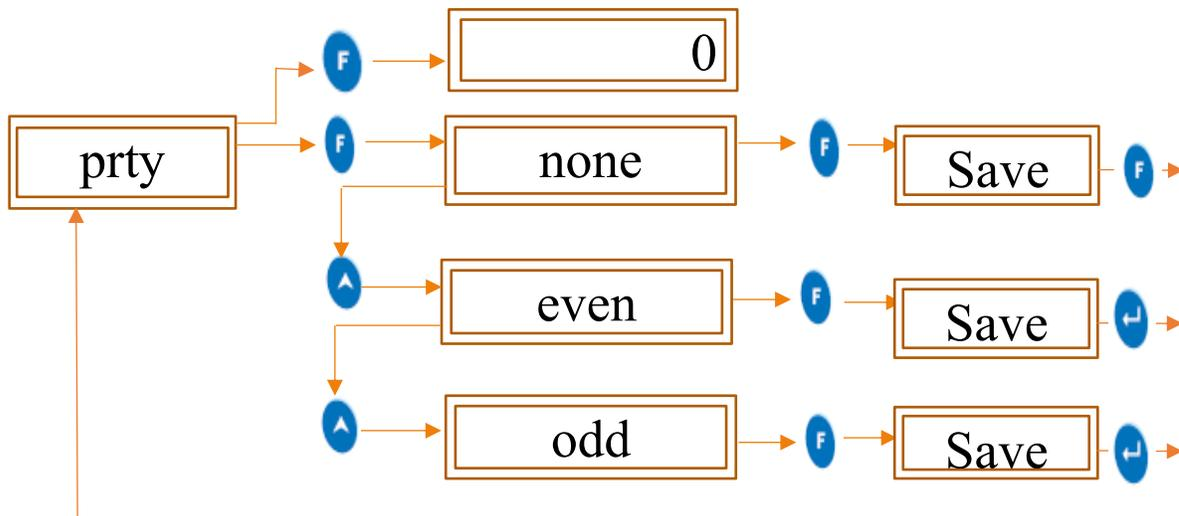

Figure 30 PRTY (Parity)
- To set the Parity, follow the procedure shown in figure 30.